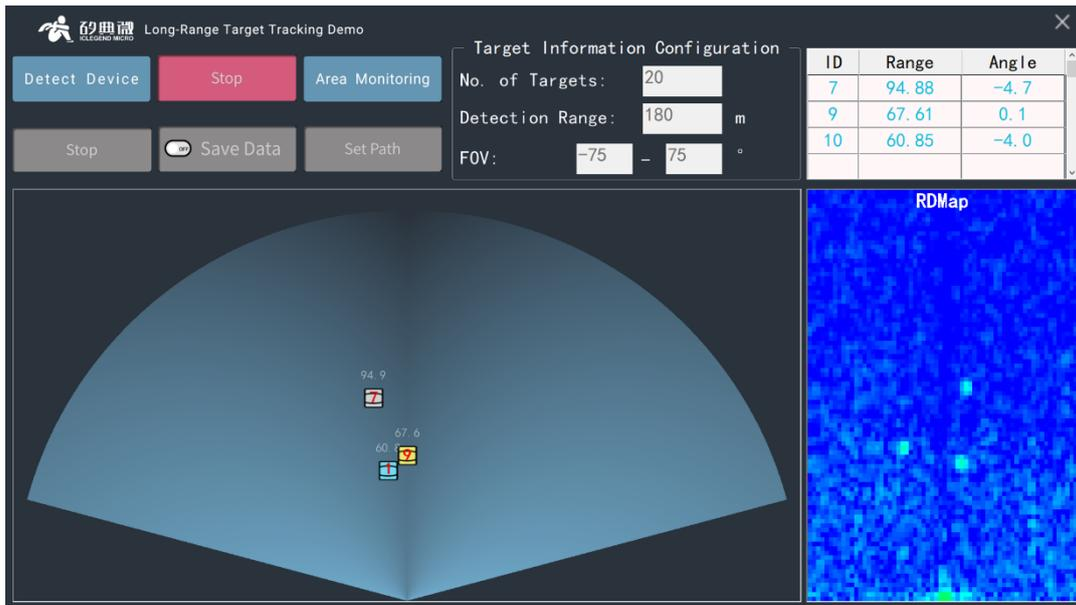

Figure 6-12 Example of multiple targets detected on Outdoor Long-Range Target Tracking demo
Step 5: Click the **Start/Pause** toggle button, the program starts reading the detection results, including the range and angle information of detected targets, from the EVB1122 board, real-time presenting the target using car-like icon with the speed tagged above (positive means it is away from the board, and negative means it is moving towards the board) in the sector chart, and displaying the range and angle information in the Target Information Table, as shown in Figure 6-12;